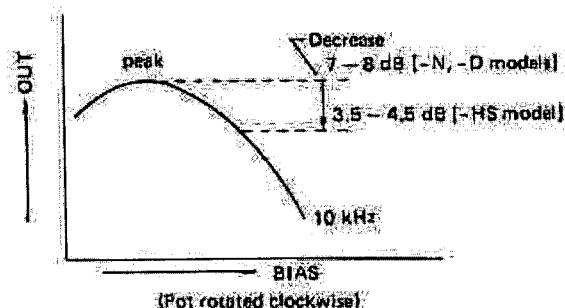

Fig. 9-7-11. Bias Level Adjustment
5. Begin the adjustments by turning trim pot R324 completely counterclockwise. Next, turn the trim pot clockwise and the AF level meter will rise to give peak reading. Slowly continue the clockwise rotation until the reading on the level meter drops 7 - 8 dB on the -N and -D and 3.5 - 4.5 dB on the -HS, from the peak reading as shown in Fig. 9-7-11.